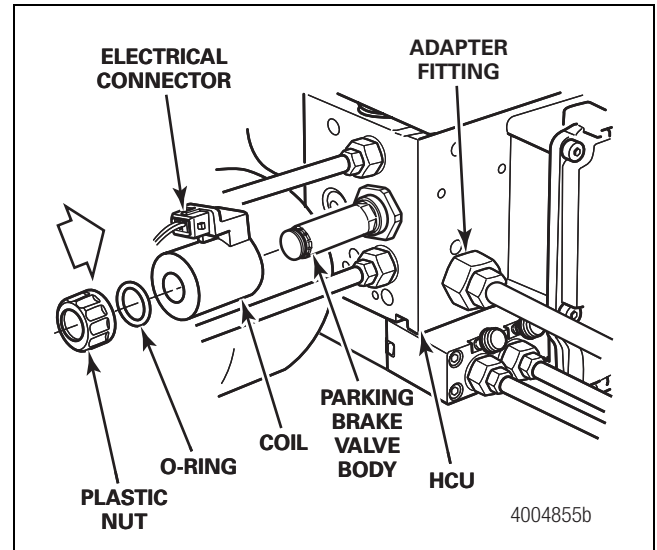

Figure 10
- Place the coil, O-ring and black plastic nut onto the parking brake pressure supply valve. Use a 12-point socket wrench to tighten the black plastic nut to 26.5 in-lb (3 N•m). Figure 10.
6. Attach the pressure supply valve connector. Figure 10.